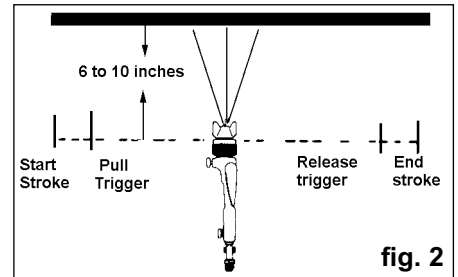

fig. 2
- 6.1. **For best results**, handle the gun correctly. It should be held perpendicular to the surface being sprayed and moved parallel to it. Start the stroke before squeezing the trigger and release the trigger before finishing the stroke. This will enable you to accurately control the gun paint (fig. 2).